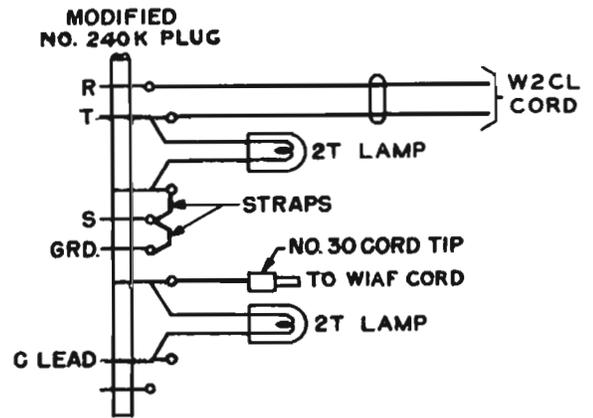

Fig. 2 – Modification at the No. 240K Plug
2.06 No. 1011G dial hand test set equipped with a W2CL cord, one No. 471A jack and one No. 240A plug (No. 2W39A cord) modified by replacing the No. 240A plug with a No. 240K plug arranged as shown in Fig. 2 (or an equivalent dial hand test set). Equip the lamp jacks with No. 2T lamps. Solder a No. 30 cord tip to the soldering terminal on the C lead test lamp spring and place straps as shown.